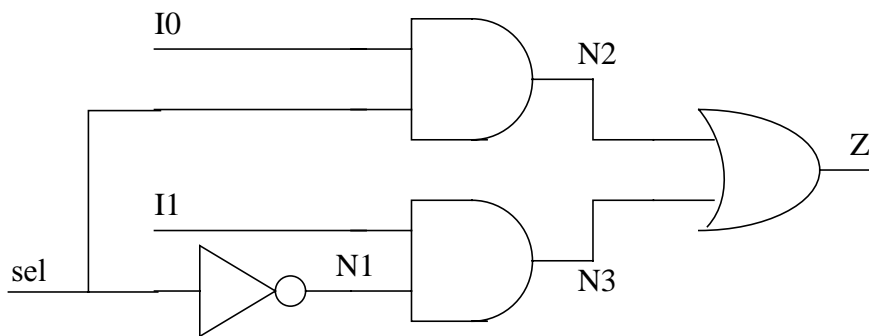
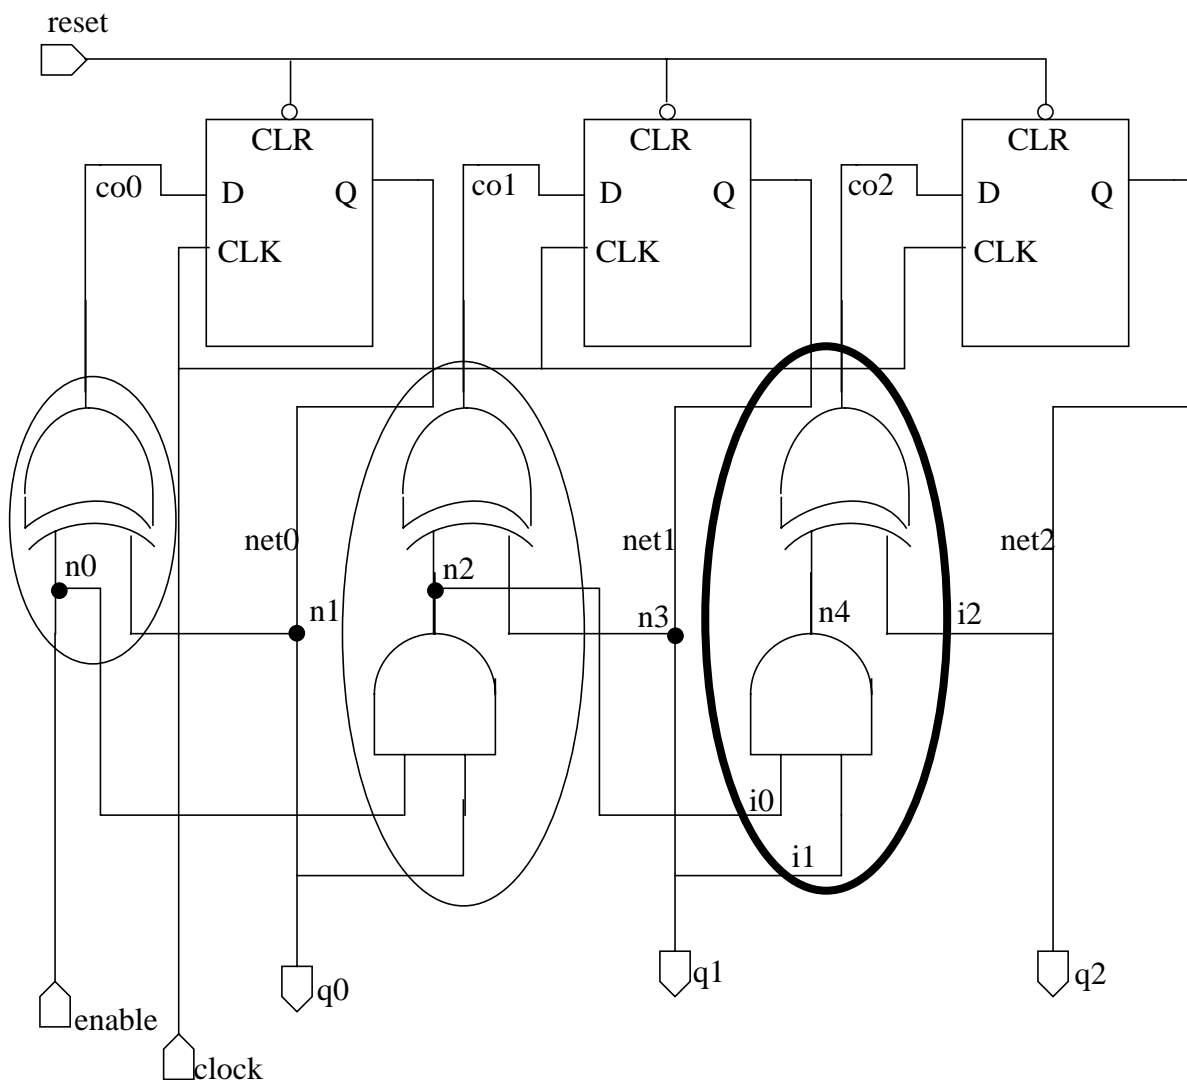
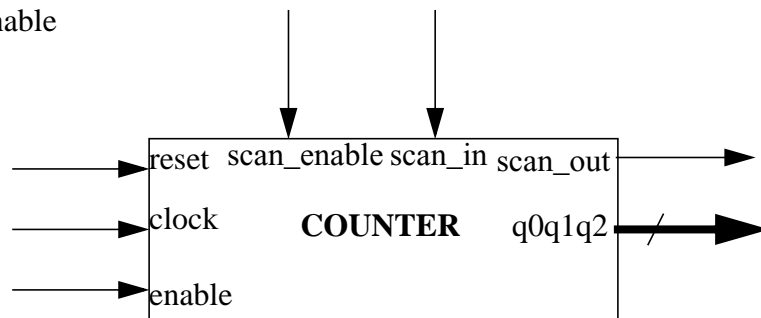
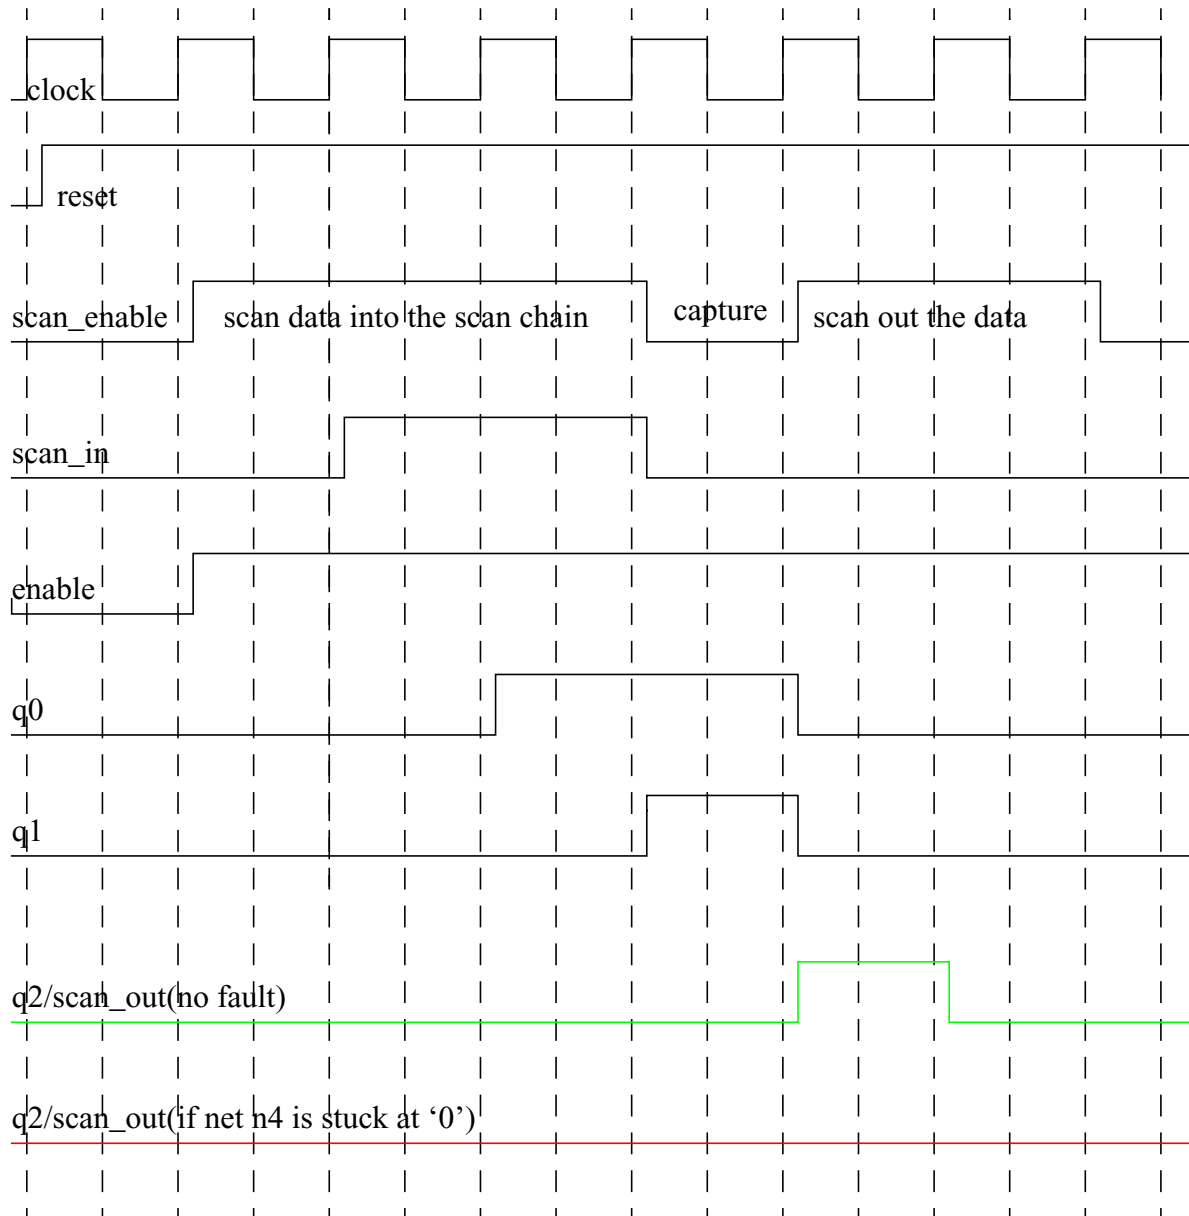

Fig 1. A combinational Logic.
Figure 2 (a): A basic 3 bit counter
Figure 3(b) : A basic 3 bit DFT-able sequential circuit box
Fig 4: Fault Simulation to evaluate stuck at '0' fault at net 'n4' in Fig 2(a)
Fig 1 shows a solution of the Problem. And Fig 2 shows a VHDL code for the problem, synthesizing this code will produce circuit equivalent to what is given in Fig 1.
Problem : Make the sequential design in Fig 2(a) Test-able. Also give a complete set of PFT for the fault-simulation which will be able to identify a stuck at '0' fault at net 'n4' shown in Fig 2(a)
Given that we already know how to do production-test-patterns for a combinational logic, we try to break the given circuit into two parts, its combinational logic blocks and its flip-flops. The Fig 2(a) shows three combinational blocks which are en-circled. Out of those 3 combinational blocks one has a dark 'bold' circle around it. We shall first try to concentrate upon the combinational logic inside this dark 'bold' circle. This has got 3 inputs i0, i1, i2 and one output co2. Had we got access to i0, i1, i2, we could have easily done PFT for this block. So we shall now try to make i0, i1, i2 control-able via the chip boundary, and co2 observable via the chip boundary. We will do similar kind of arrangements for all inputs and outputs to all the combinational blocks identified in the design.
Fig 4. gives a diagram, where we have attempted to generate PFT, which can detect a stuck at '0' fault at the node 'n4' as shown in Fig 2(a) and also Fig 3(a). The output q0, which is also the 'scan_out' from the design, is drawn in green, and red color. Green means, no fault was reported, as it will be in pre-production fault simulation, or in post-production testing, if there was no stuck at '0' fault detected in the physical device. Red shows an error, and is only possible in post-production test.
- The circuit given to us in Fig 2(a) was modified in order to make the internal nodes in the design 'controllable' and 'observable', so that we can now perform fault-simulation, before production of the device, then save those sets of PFT to be used by a Tester, on physical device after production. We can now say that we have added DFT circuit to our original design, to make it DFT-able. The resulting DFT-able of Fig2(a) is Fig 3(a).